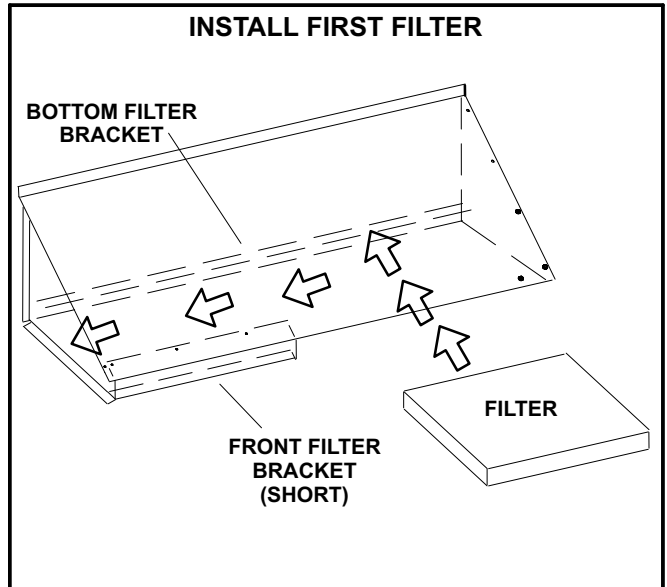

FIGURE 11
- 9- Insert filter into the bottom filter bracket. Slide filter to the left into the shorter front filter bracket. See figure 11.